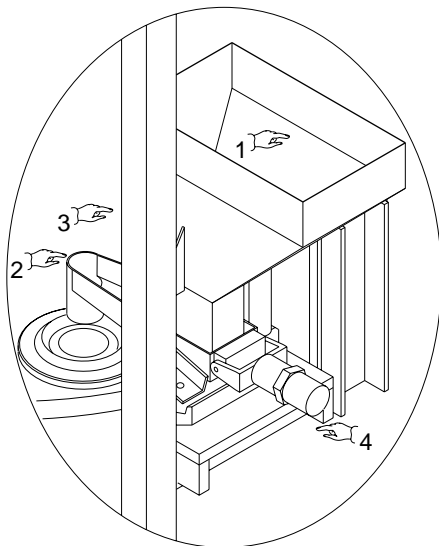

Fig. 6.7
This device, which is mounted on the structure, is used to spread nut granules, chocolate flakes or similar on the product. The unit consists of a hopper (Pos. 1, Fig. 6.7) connected to distribution channels (Pos. 2, Fig. 6.7) along which the product flows due to the effect of the vibration induced by a vibrator.
- slacken screws (Pos. 3, Fig. 6.7) using the
wrench and move the adjustable baffles (Pos. 4, Fig. 6.7), lifting them to increase granule feed or lowering it to reduce feed.
- rotate the pressure regulator (Pos. 5, Fig. 6.7) clockwise to increase the working pressure of the vibrator in proportion to the quantity of granules fed, and anticlockwise to reduce it.